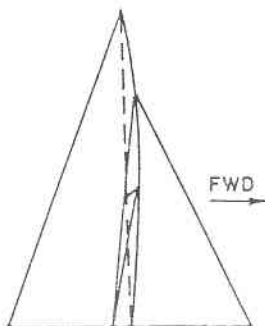

Fig. 12 - 3/4 Rig
- 2 Tension forestay and upper shrouds (leaving the backstay slack) until the mast has a 1" forward bend at the spreaders (see Fig. 12).